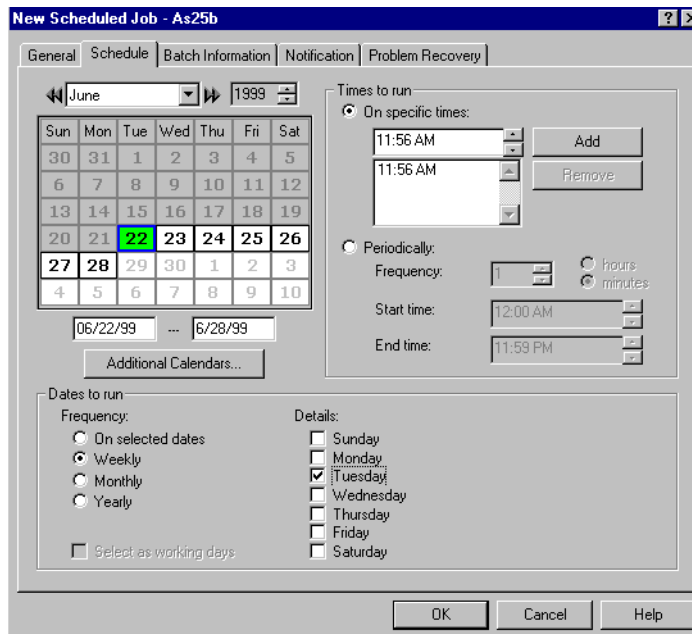

Figure 133. Advanced Job Scheduler selection window
6. Select the **Schedule** tab. A window similar to the example in Figure 133 on page 168 appears.